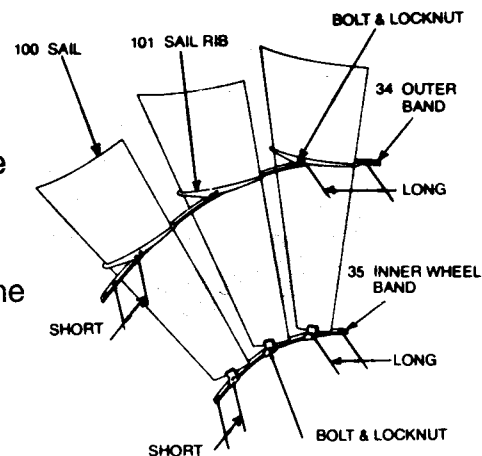

FIGURE 8
- Slide three sails on the OUTER WHEEL BAND (PART 34) through the slots in the sail and on the outside of the sail rib. Make sure that the hole locations in the outer wheel band are located as shown in figure 8. Install two bolts and locknuts at each rib location.
- Locate the INNER WHEEL BAND (PART 35) to the sail on the inside of the tabs. Make sure the hole locations in the inner band are located to the sail as shown in figure 8. Attach with one bolt and locknut.